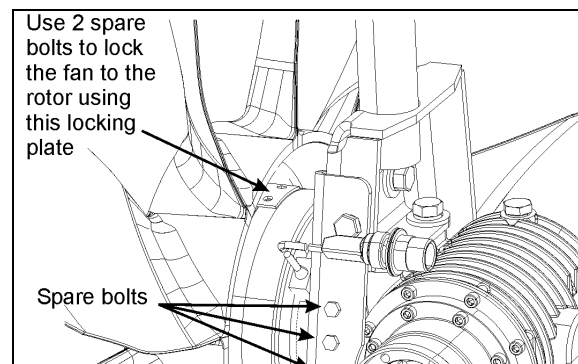

FIGURE 25: MECHANICAL LOCKING
5. Screw in and tighten the spare bolts (Fig. 25).